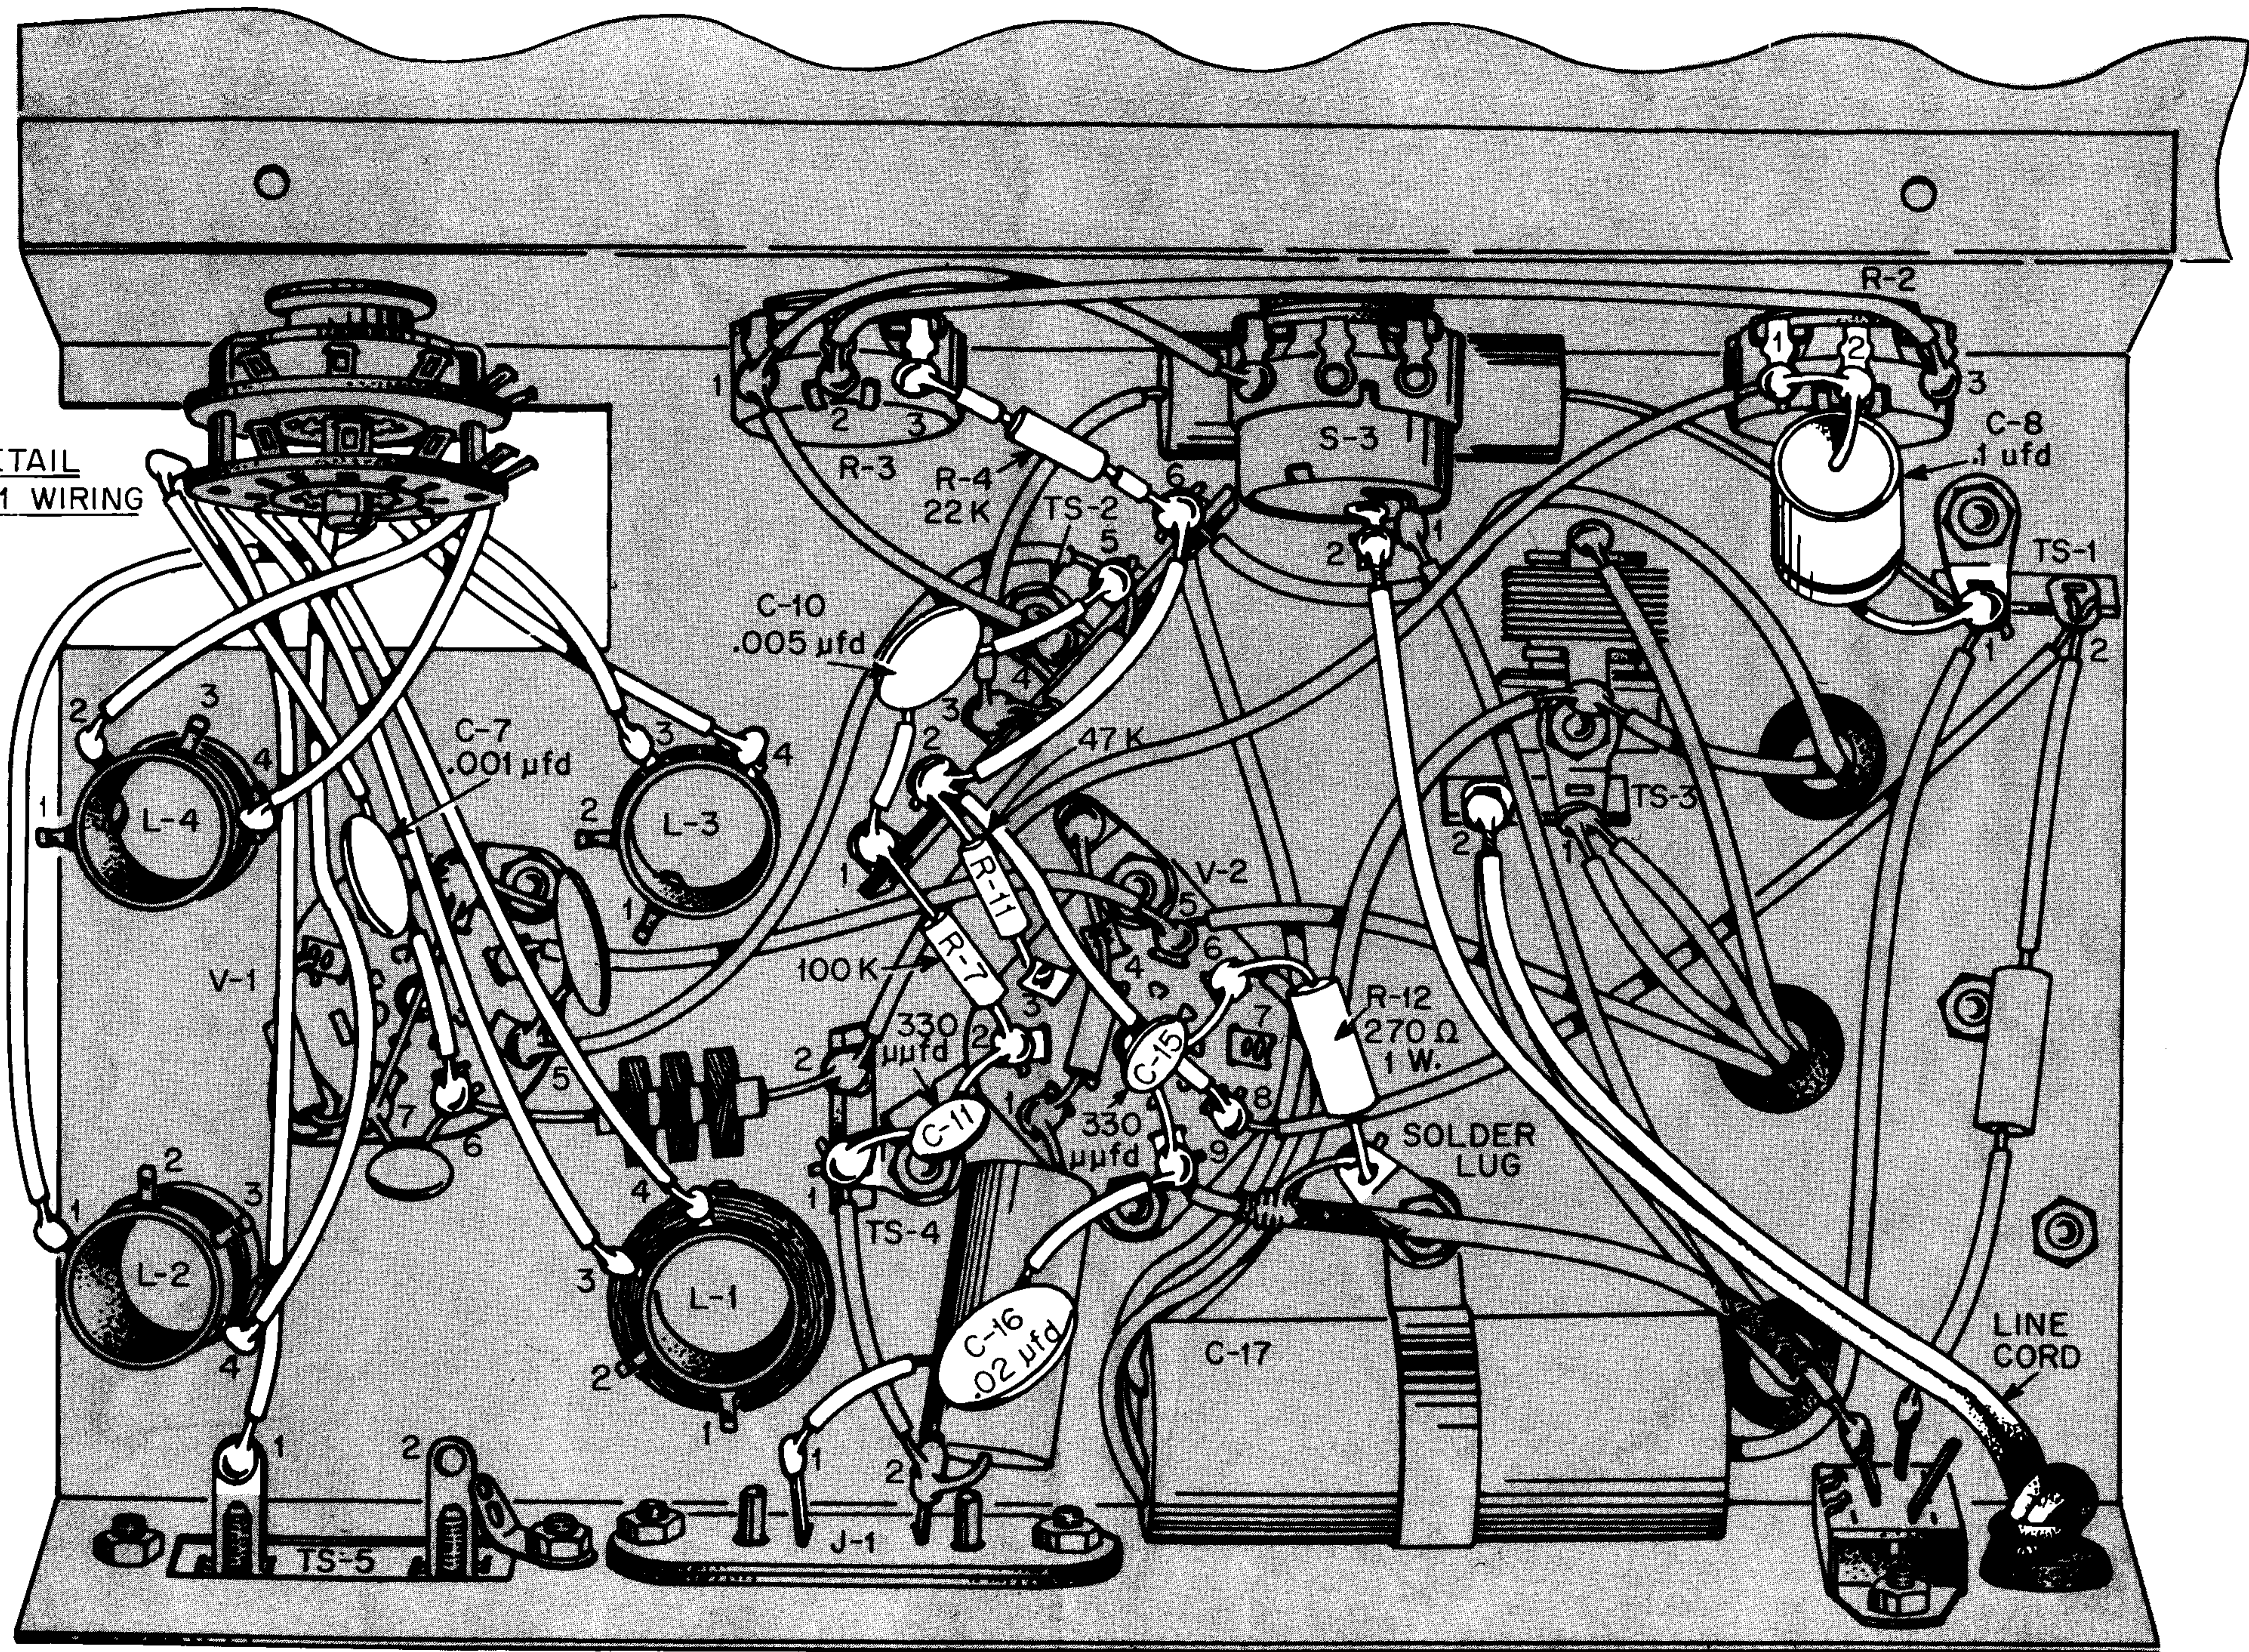

FIGURE 7. THIRD WIRING VIEW
- Solder one end of a 4-1/8" white-black wire to terminal 18 of S-1. Route as shown in Figure 7. Solder the other end to terminal 1 of L-2.